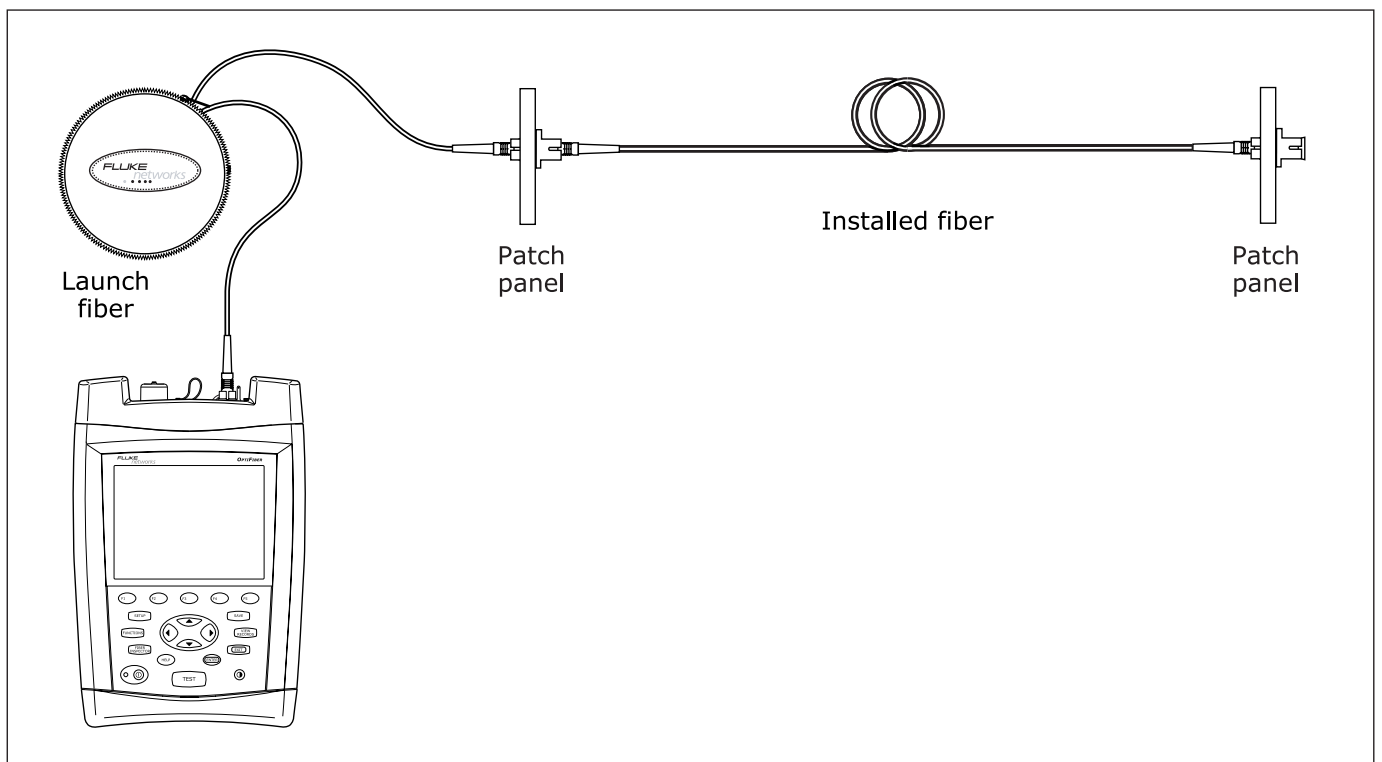

Figure 3-10. Connecting the OTDR to Installed Fiber (no receive fiber)
- 4 Connect to the tester's OTDR port to the cabling as shown in Figure 3-10, 3-11, or 3-12.